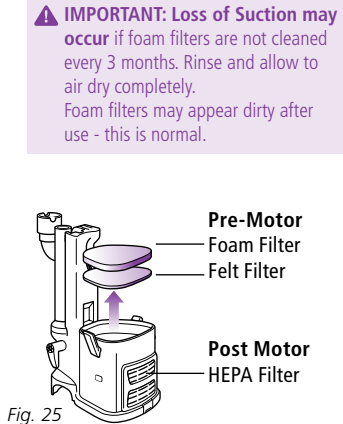

Fig. 25
- Pull the 2 filters out from the top of the motor base. **(Fig. 25)**